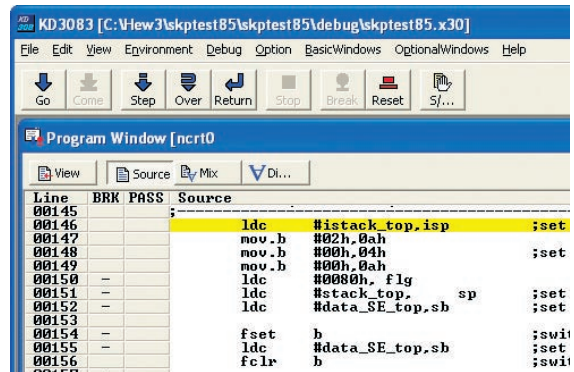

Figure 6. KD3083 Program Window after download of skptest85
- d) After initialization, the KD3083 Program Window will appear and our program, “skptest85.x30”, is automatically downloaded. The KD3083 Program Window should look like Figure 6.